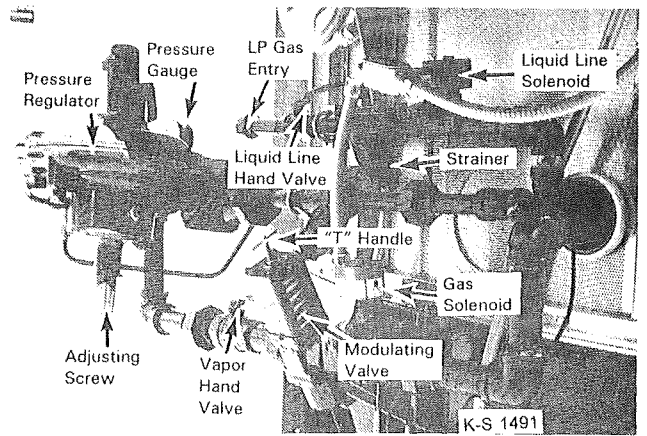

Figure 19
- Start fans by pressing the FAN START BUTTON. There is a (3) second delay between Fan No. 1 starting and Fan No. 2 starting. There is also a (3) second delay before Fan No. 3 starts. Check to make sure that all (3) Air Switch Indicator Lamps are ON.
- Open the gas vapor hand valve (Figure 19) half way.
- Flip the BURNER SWITCH up to the ON position. After a (10) second purge delay, the Ignition Indicator Lamps will be on and the burners will light.